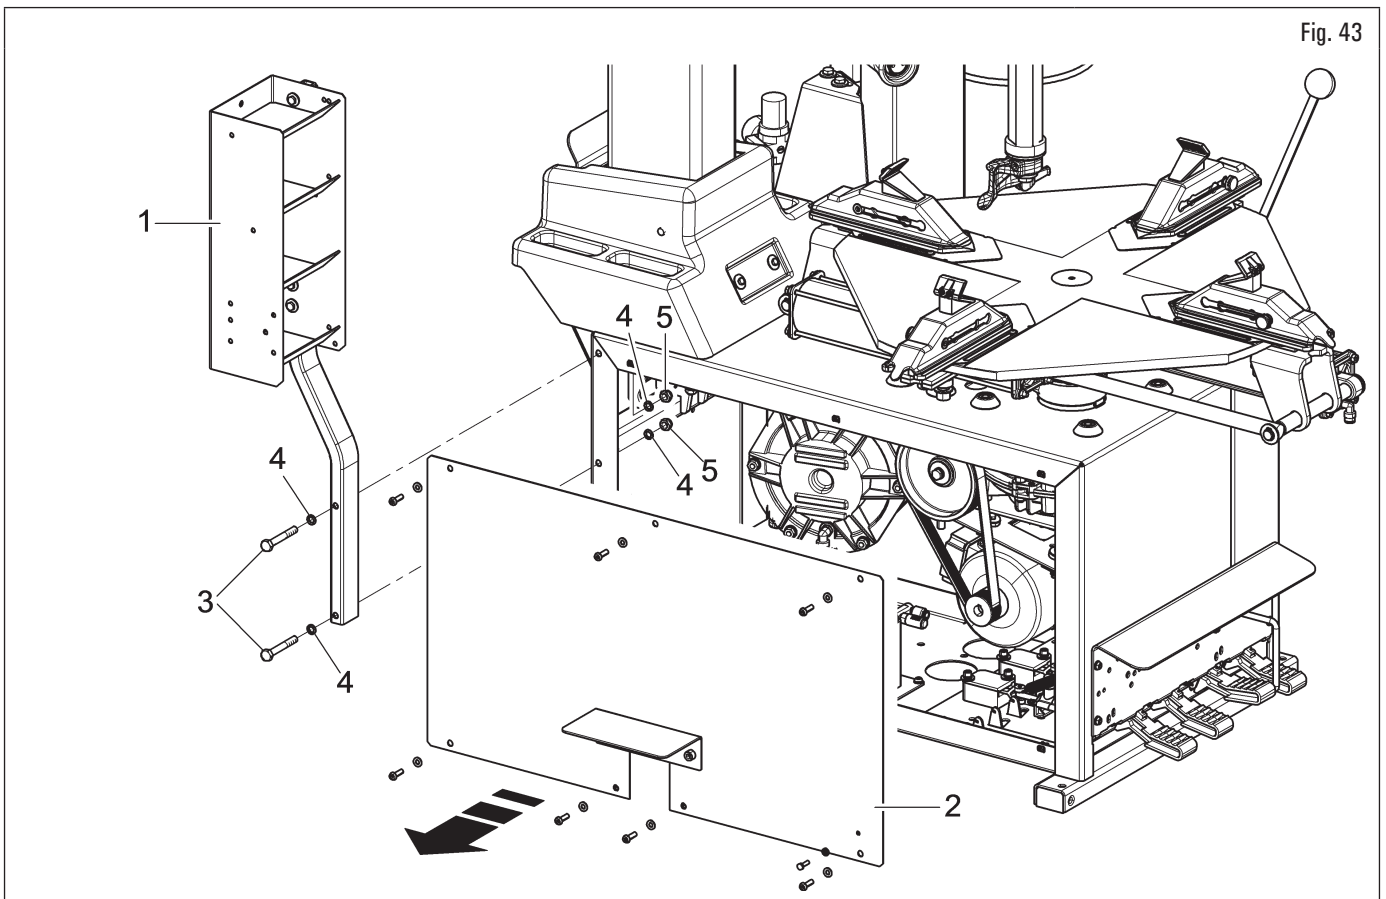

Fig. 43
To fit the bowl kit (Fig. 43 ref. 1) to the equipment, remove the lateral guard (Fig. 43 ref. 2) and use the bolts (Fig. 43 ref. 3), the washers (Fig. 43 ref. 4) and the nuts (Fig. 43 rif. 5) supplied, as shown in Fig. 43. When finished, reassemble the lateral guard.